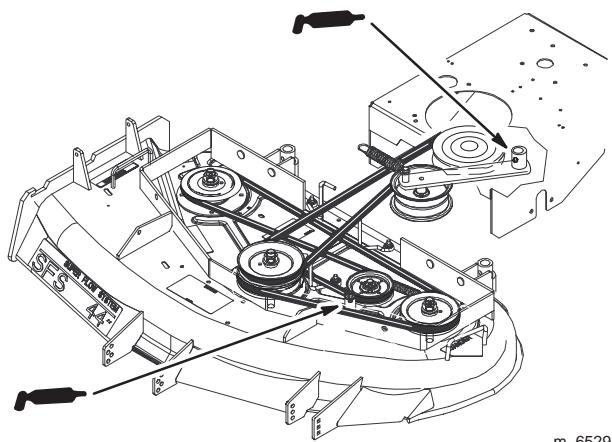

Figure 39
2. Grease the idler pulley pivots (Fig. 39).